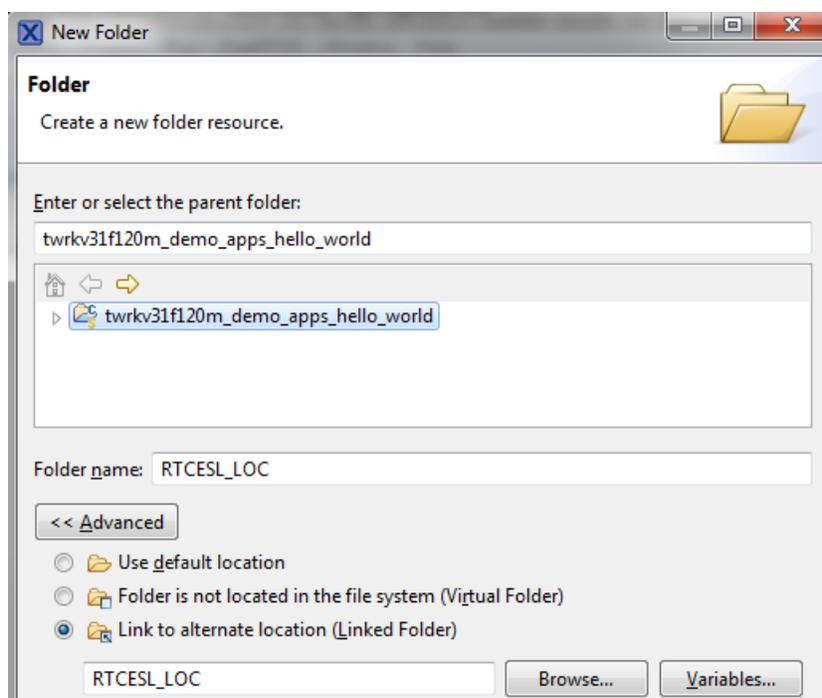

Figure 1-6. Folder link
4. Click Variables..., select the RTCESL\_LOC variable in the dialog, click OK, and/or type the variable name into the box. See Figure 1-6.